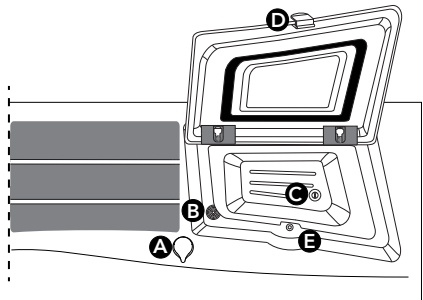
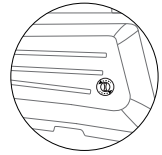

Figure 12.1c
Figure 12.1d
From the Settings Menu (Figure 12.1a) tap **SunCooler™...** to enter the SunCooler Drain Menu, Figure 12.1b. When water accumulates within the SunCooler bins, draining of the water can be done in one of two ways, internally into the hot tub (Figure 12.1d) or externally out of the hot tub (Figure 12.1f). There are also SunCooler perimeter drains, Figure 12.1c. When water accumulates, in the perimeter, draining is continuous any time pump 1 is running.
2. Locate the drain plug inside the SunCooler, Figure 12.1d.
4. Locate the air control that works with the bin drain, Figure 12.1d, and close it by turning it counterclockwise.